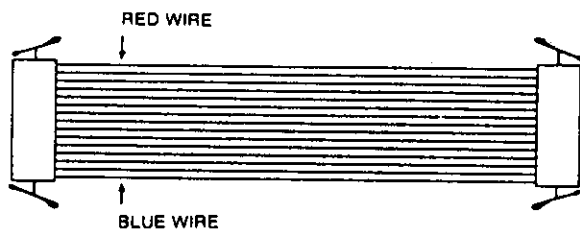

FIGURE 5A — ESIU CONNECTOR CABLE
2.4 If the male SPF/P3 connector has only twelve pins the connectors *must* be modified as follows (see **Figures 5A and 5B**):